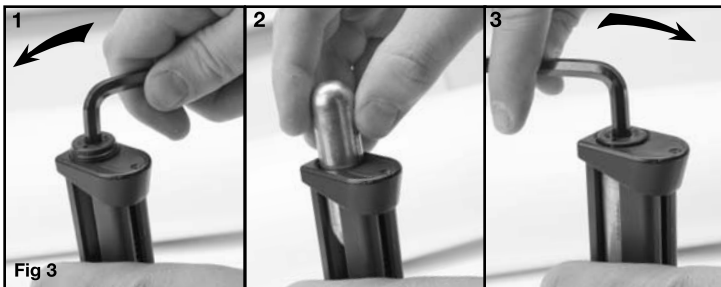

Fig 3
- L. Piercing Knob (fig. 3)
- To remove the piercing cap, use the enclosed hex wrench and turn counter-clockwise. (Fig. 3)